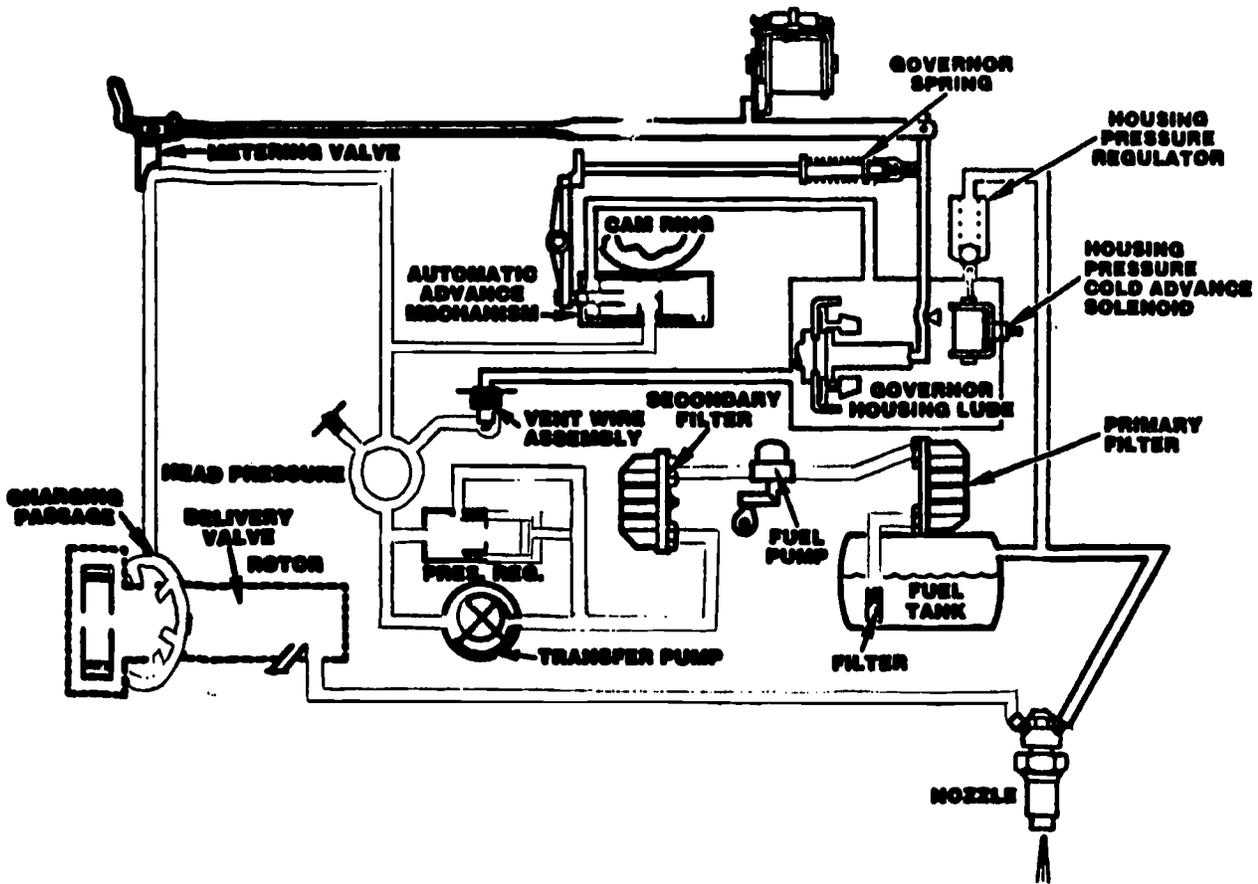

Fig 3-16. Fuel flow (6.2L diesel).
The lift pump is a mechanical diaphragm pump, operated by an eccentric on the camshaft, mounted on the right front of the engine (refer to fig 3-16). The pump brings fuel from the tank and supplies about 5 1/2 pounds of pressure through the fuel filter. This pump appears like any single diaphragm fuel pump used on gasoline engines and serves the same purpose.
The fuel filter on the M1009 (CUCV) incorporates a two-stage pleated paper type filter, water separator, water sensor, and a fuel heater (look at fig 3-16). The filter element will remove particles 10 microns in size and larger, providing clean fuel for injection. The filter should be changed (replaced) according to manufacturer's recommendations or the lubrication order (LO) pertaining to the vehicle to insure that the clean fuel reaches the injection pump. During the filtering process, water is removed and collected in the bottom of the filter. When enough water is accumulated in the filter, a sensor will activate the fuel light on the dashboard. Water in the filter can be drained by opening the drain cock and vent on the filter base. The fuel heater, mounted in the filter base, activates when the temperature is below 20°F and will then turn off when the fuel reaches 50°F. This provides protection against wax (paraffin) separating from the fuel and clogging the filter. The heat will only be on until the under hood temperature gets hot enough to heat the fuel. However, this does not heat the fuel in the tank. Therefore, the correct grade of diesel fuel must be in the tank prior to starting the vehicle. Testing the heater with an ammeter should draw 8.6 amps (approx); it must be tested below 20 degrees ambient temperature.
Fuel is drawn into the pump by the vane type transfer pump and is routed to the automatic advance mechanism housing cover and metering valve. For a complete fuel flow through the distributor fuel system, look at figure 3-16.